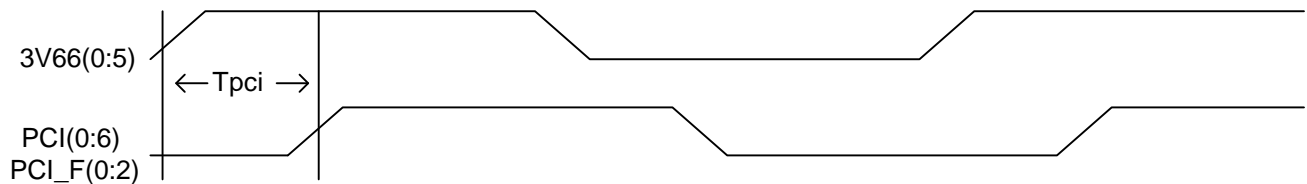

Figure 8. Unbuffered Mode – 3V66(0:5) to PCI (0:6) and PCI\_F(0:2) Phase Relationship
*Figure 8* shows the timing relationship between 3V66(0:5) and PCI(0:6) and PCI\_F(0:2) when configured to run in the unbuffered mode.